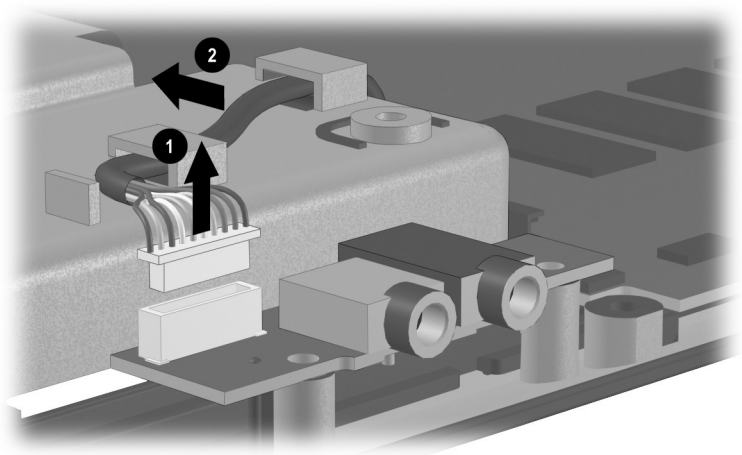

Figure 5-46. Disconnecting the Audio Cable
2. Disconnect the audio cable ❶ from the audio board and remove the cable from the clips ❷ in the base enclosure (Figure 5-46).